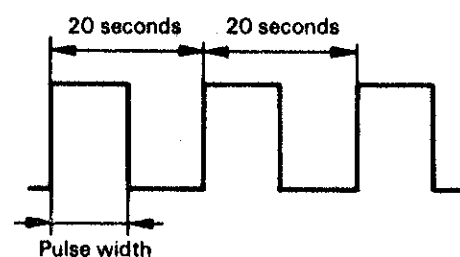

Fig. 1
- With the current quartz circuit, the pulse width supplied from the electric circuit to step motor is constant (Fig.1).